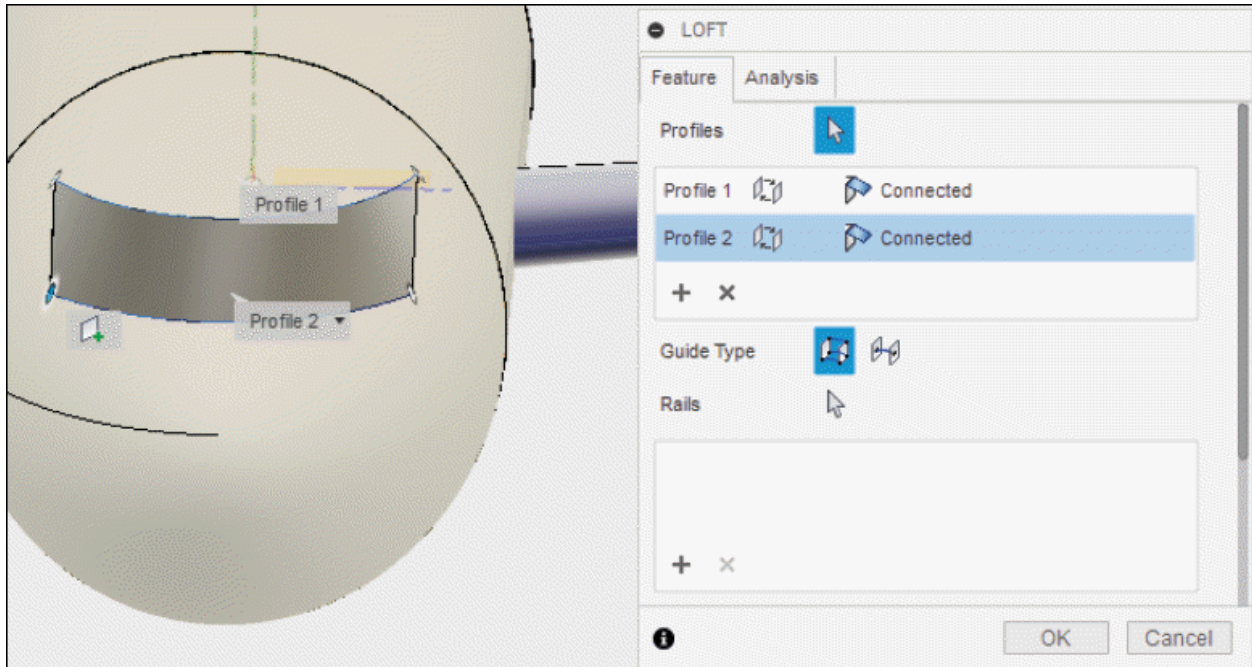

Figure-66. Creating windshield
- Select the area in **Profiles** section as displayed in Figure-66.